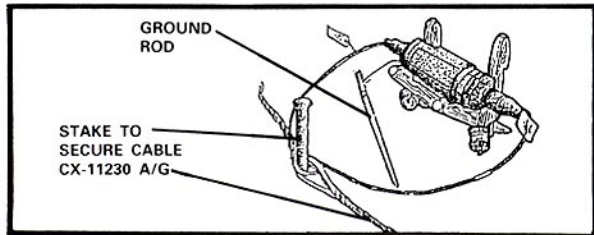

FIGURE 3 Mounting Unattended Repeaters
2. Each TD-1219/G is grounded. (See fig. 3).
2. Each TD-1218/G is grounded. (See fig. 3)